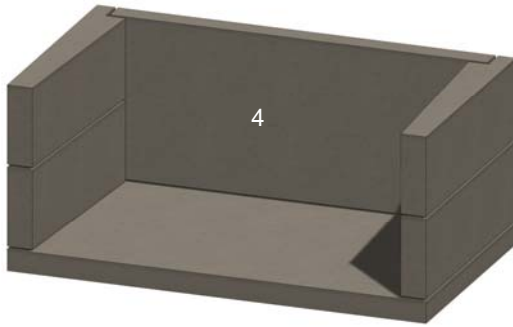

Figure 11. Back Plate
E. Install the back plate (4). See Figure 11.